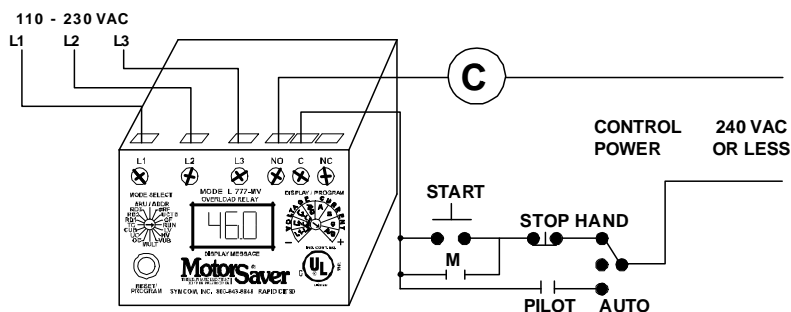

Figure 3. Typical Wiring Diagram
4. Connect the output relay to the circuitry to be controlled (see Figure 3). To control a motor, connect the normally open contact in series with the magnetic coil of the motor starter as shown. To sound an alarm, connect the normally closed contact in series with the alarm (not shown).